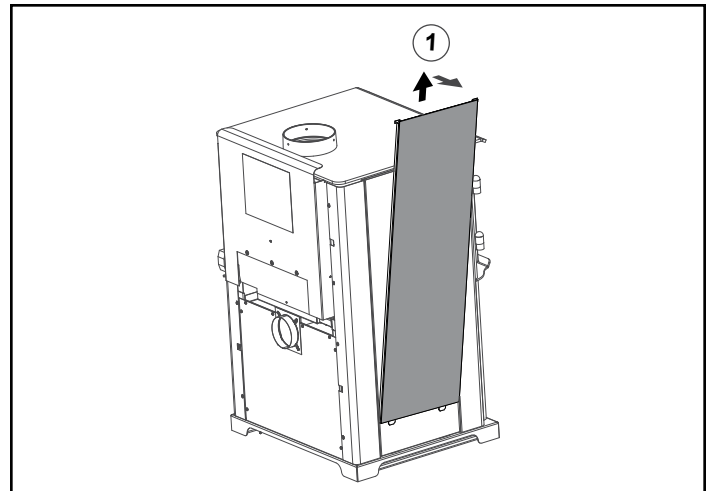

Figure 24.4
- Remove solid panel from side by lifting up and pulling away from appliance (use a flat tool to pry from bottom if needed) (**Figure 24.4**).
1. Remove tile frame from side by lifting up and pulling away from appliance (**Figure 24.4** reference solid side panel removal).